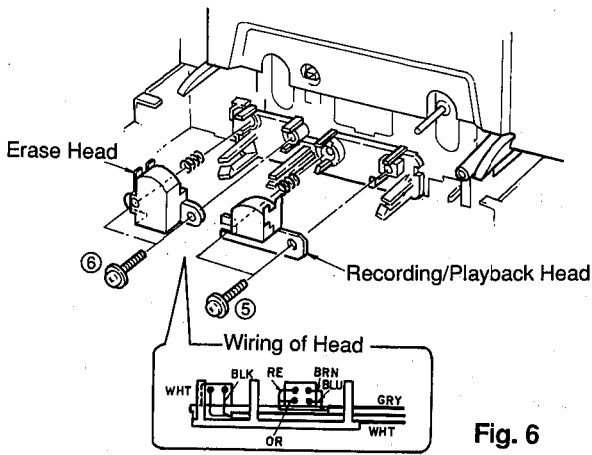

Fig. 6
a. Remove 2 screws (⑤) in fig. 6 and then remove the Recording/Playback Head.
b. Remove 2 screws (⑥) in fig. 6 and then remove the Erase Head.